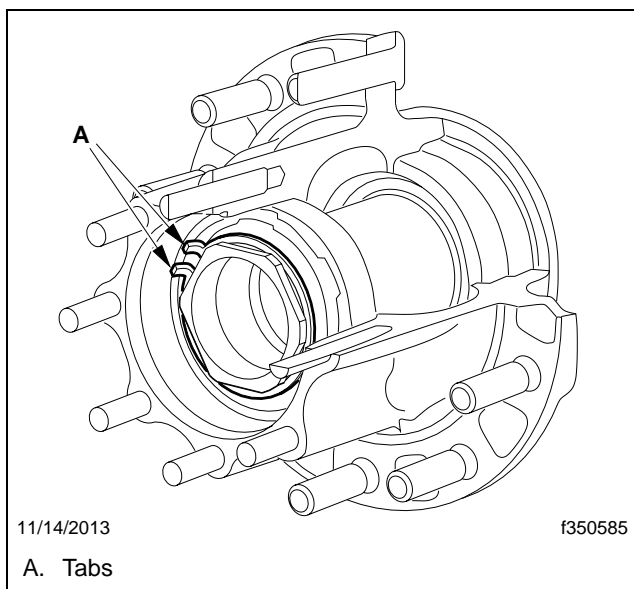

Fig. 7, Lock Ring, ConMet PreSet Plus Hub
- 16.2 Using the tabs, seat the lock ring in the machined grooves of the spindle nut. See **Fig. 7**.